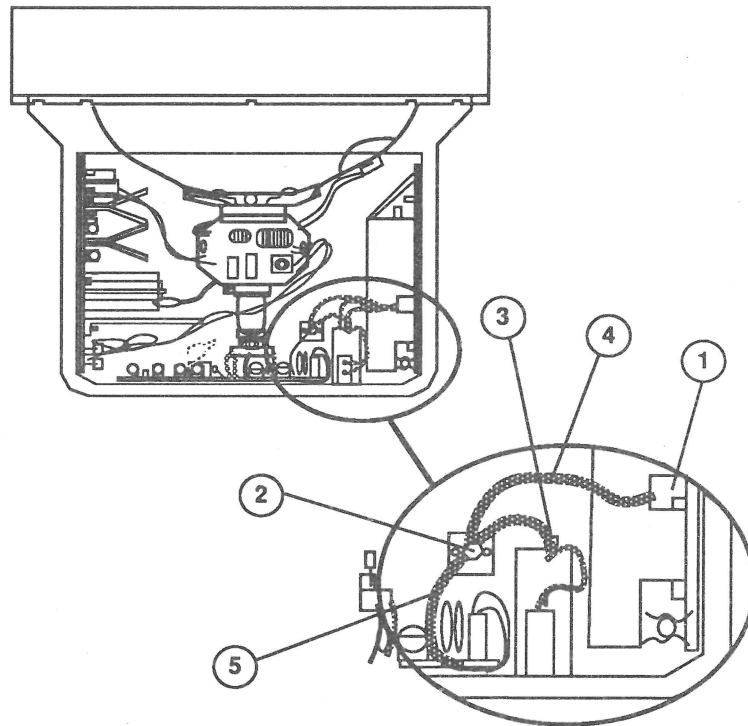

FIGURE 28
5. Connect the three-wire connector to the top of the power supply (Figure 28, #1).
- a) Lower the wire (Figure 28, #3) attached to the on-off switch onto the metal post (Figure 28, #2), and replace the hex nut and washer.
- b) Lower the wire (Figure 28, #4) attached to the three-wire connector onto the metal post (Figure 28, #2), and replace the hex nut and washer.
- c) Lower the wire (Figure 28, #5) attached to the video board onto the metal post (Figure 28, #2), and replace the hex nut and washer.